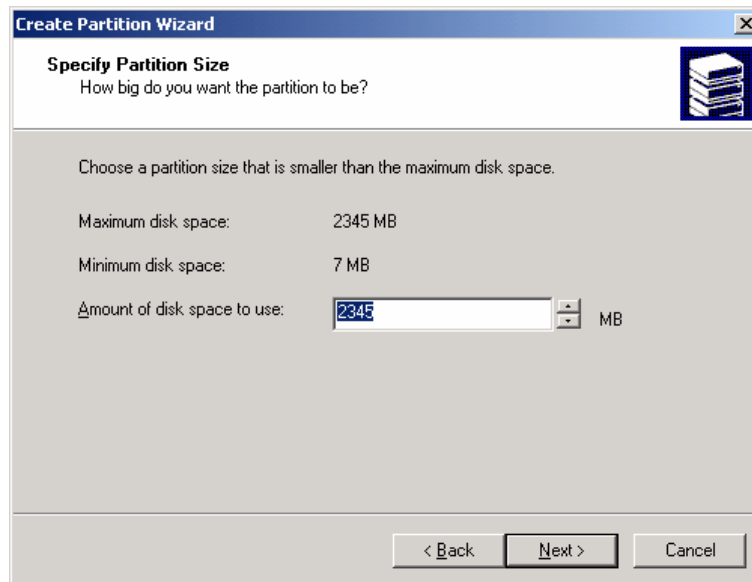

Figure 3.4 Specify Partition Size Dialog Box
2. Select the desired type of partition (primary or extended) and click Next. The Specify Partition Size dialog box displays (see Figure 3.4).